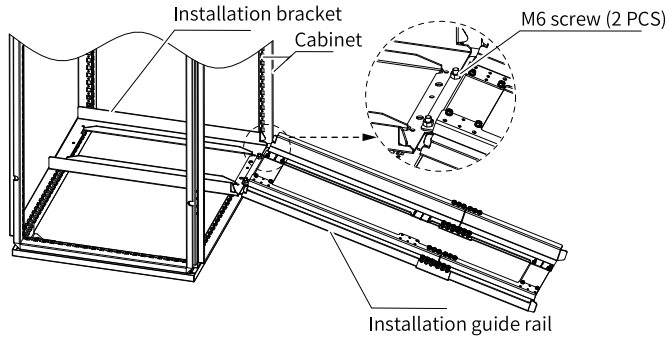

Figure 5-9 Mounting the guide rails on the cabinet
b. Align the two round holes at the front end of the mounting rail with the screws of the mounting bracket, and then lock the guide rail to the cabinet with two M6 nuts, as shown in "Figure 5-9" on page 70.